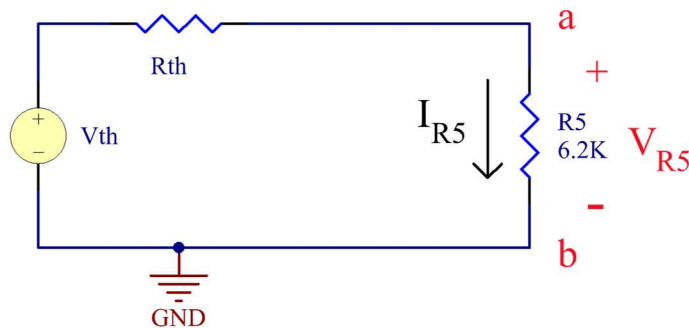

Figure 10. Thevenin equivalent of Circuit in Fig.8.
8. Implement the Thevenin Equivalent Circuit on the proto board and measure the voltage across $R5$ as shown in Figure 10. Pick the closest 5% resistor for R_{TH} .